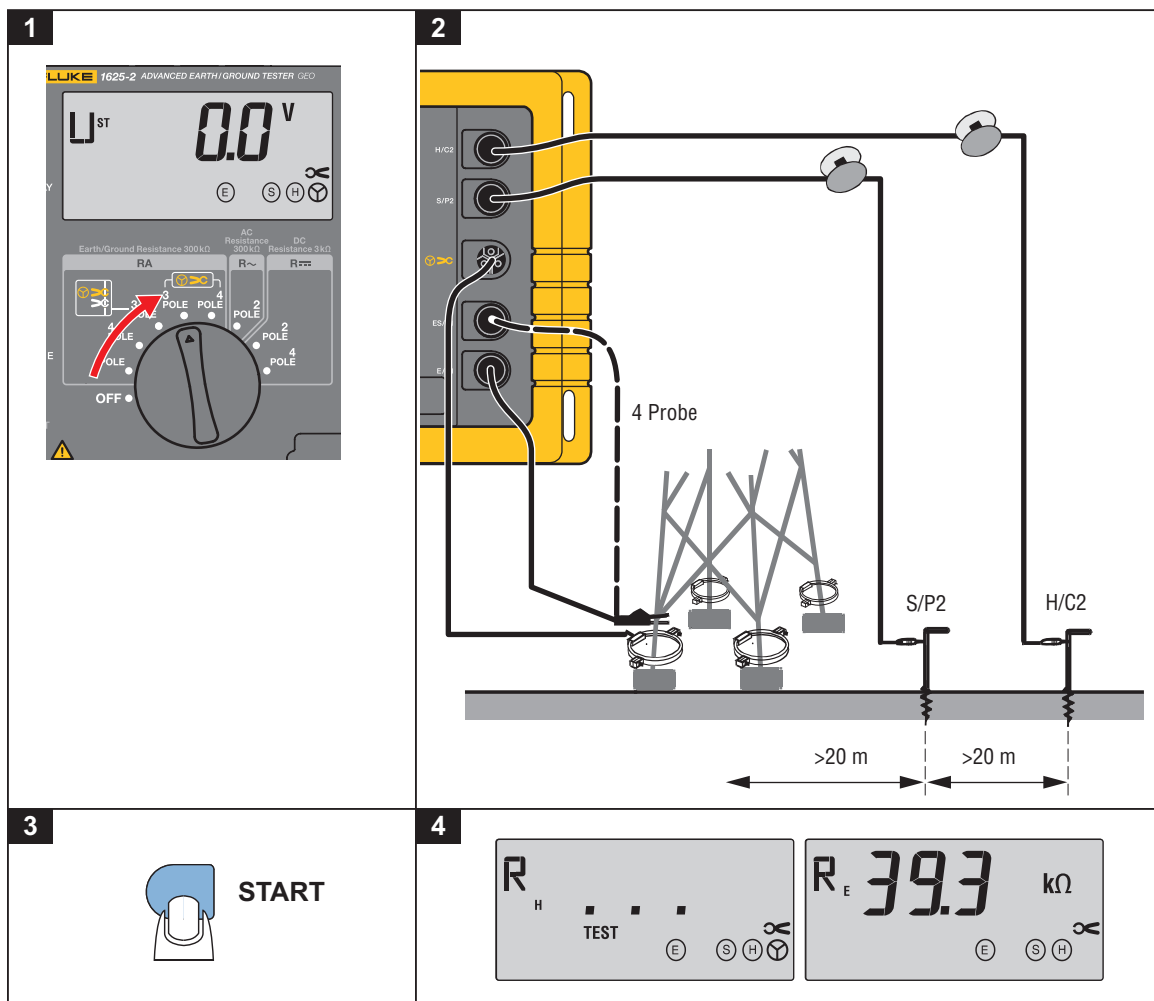

Figure 7. Earthing Resistance without Disengaging the Overhead Earth Wire
The new measuring method employed in this instrument - with its external current transformer to measure the true current flowing through the earth electrode - allows measurements of earth electrode resistances without disconnection of the earthing system or disengaging the overhead earth wire. See Figure 7.
1. Turn central rotary switch to position "**▷CR_E 3pole**" or "**▷CR_E 4pole**". The instrument is wired according Figure 7 and messages on the display.